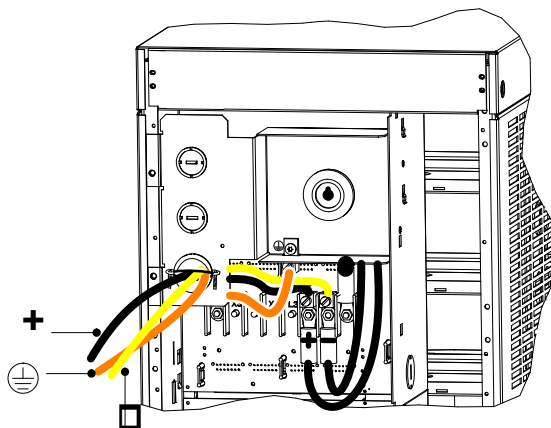

Figure 46. Battery Cable Installed in Battery Cabinet
- 16.** If the battery cable will be installed in flexible or other conduit, pull the conductors through the conduit. Attach the conduit to both the UPS power entrance panel and the battery cabinet entrance panel as shown in Figure 46.
17. Secure the **+**, the **⏚** and the **⊖** conductors to the proper compression lugs on the battery cabinet backplane as shown in Figure 46. Torque all three compression lugs to 8.5–9.6 Nm (75–85 lb in).